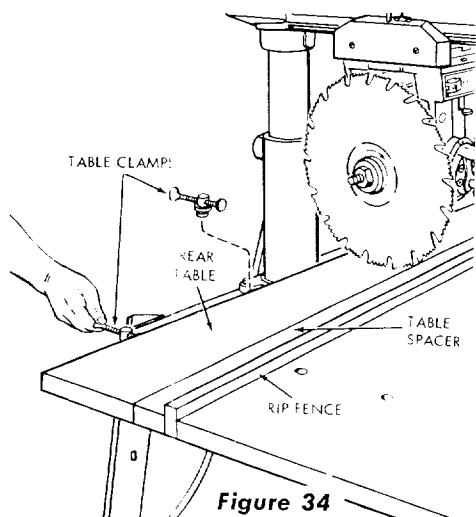

Figure 34
- Install the fence, rear table, table spacer and three table clamps. (See figure 34.)